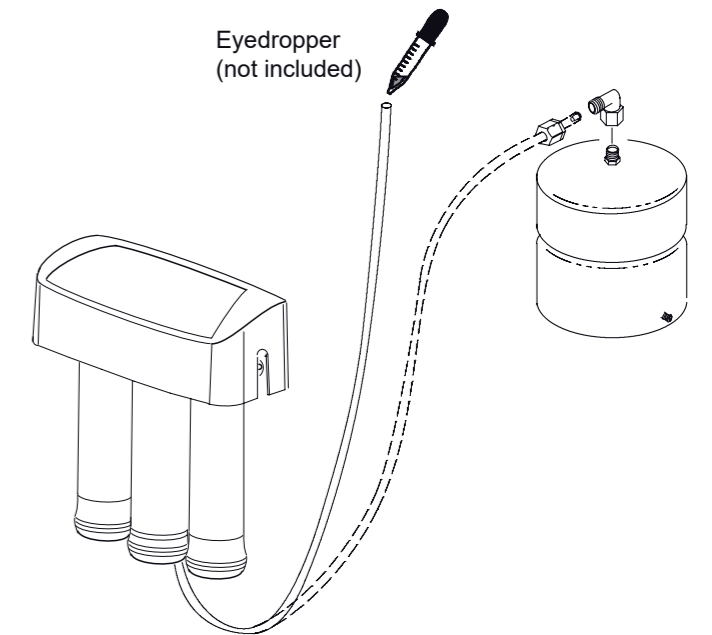

FIG. 21
See Fig. 21.
4. Add 3 ml of bleach into open end of yellow tubing. Handle bleach according to bleach manufacturer's recommendations. See Fig. 21.